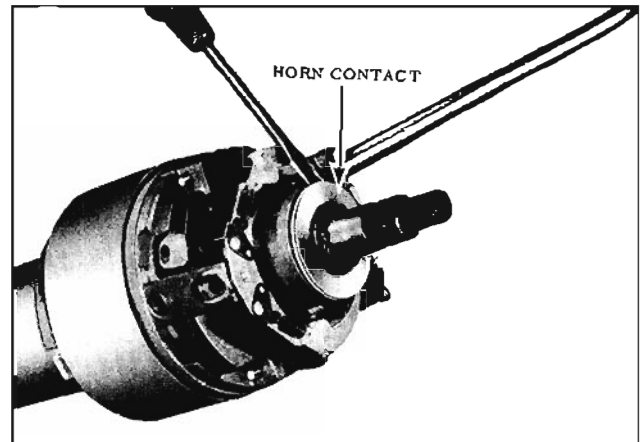

Fig. 8-94 Removing Horn Contact
3. Pry out the horn contact assembly from the turn signal actuator housing and remove the contact and wire assembly. (Fig. 8-94)